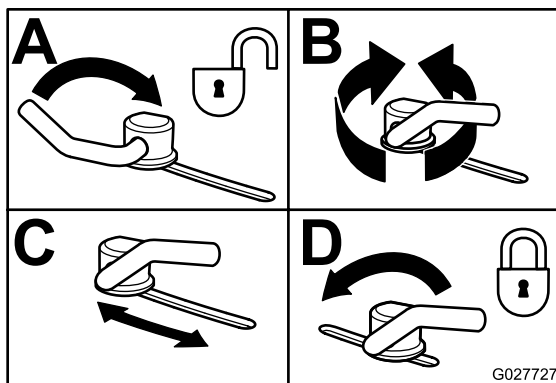

Figure 33
3. To adjust the cam locks, swing the lever up to loosen the cam lock (Figure 33).
5. Swing the lever back over to tighten the baffle and cam locks (Figure 33).